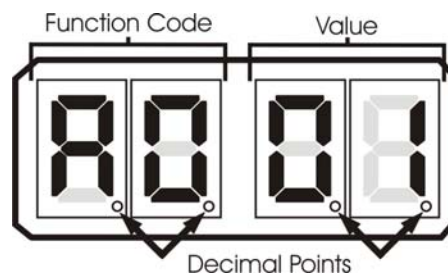

Figure ENG-283-7: Display LED Designations
- A decimal point indicator is located on the bottom right corner of each Display LED. (Figure ENG-283-7: Display LED Designations)